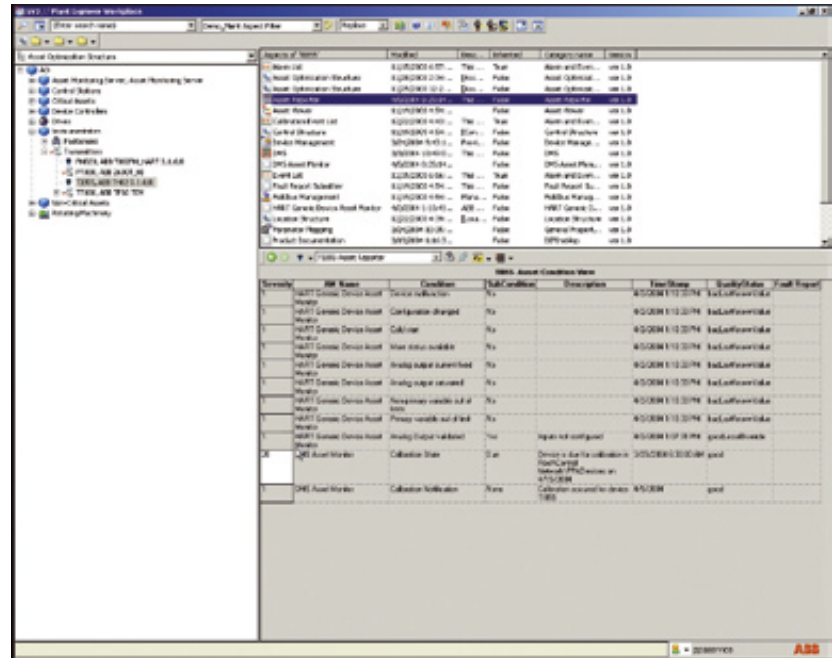

Figure 1. Asset Reporter showing calibration conditions
3. Once at any available 800xA workplace, the supervisor logs in, reviews the alarm page, and accesses the device's DMS asset monitor aspect or the Asset Reporter aspect. These aspects show the device's "Calibration Due" or "Overdue" condition. The supervisor then right-clicks on the Calibration State condition and selects Fault Report Submitter from the context menu (Figure 1).